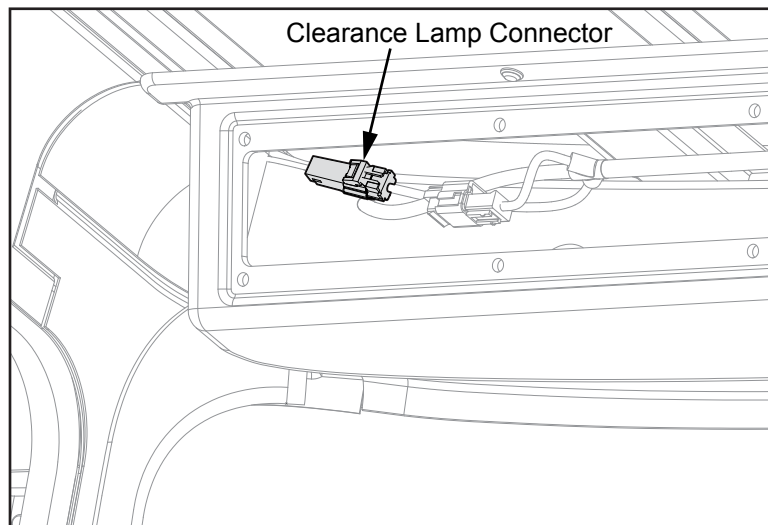

Figure 3
5. Locate (3) identification lamp and (2) clearance lamp connectors within the overhead console and disconnect them from the overhead harness (See Figures 3, 4 and 5).
Note: Figures 3, 4 and 5 represent the most common location and application. Due to production variations, your vehicle may vary from the illustrations.